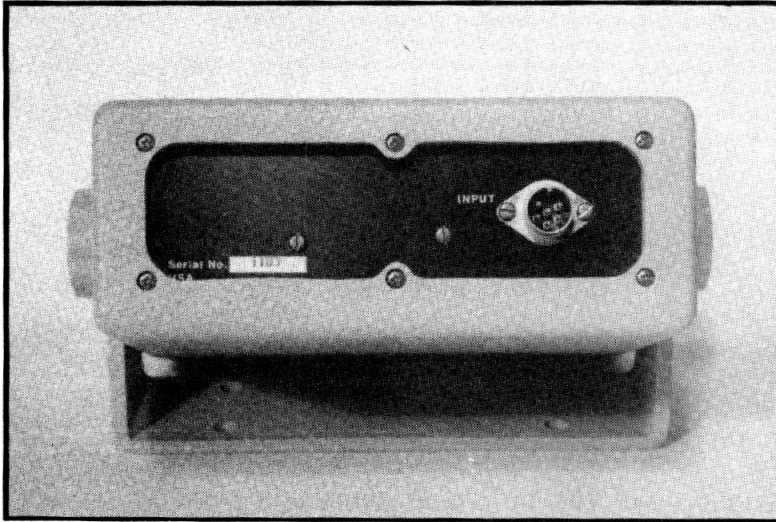

FIGURE 48.
- Connect interconnecting cable DC700-4404 (provided) into the jack on the back of the DC700/R console (Figure 48, page 40). Secure with 2 screws provided.